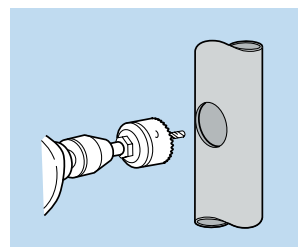

Fig.1
- Cut correct hole size and deburr (Fig.1).